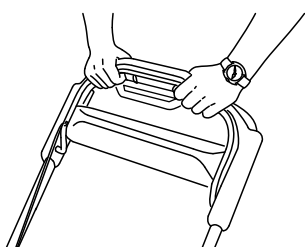

Figure 23
3. Hold the blade-control bar against the handle (Figure 23).